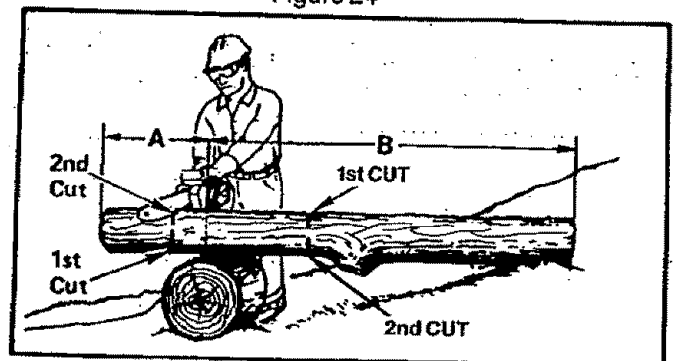

Figure 25
4. BUCKING — USING ANOTHER LOG AS A SUPPORT (Figure 25):